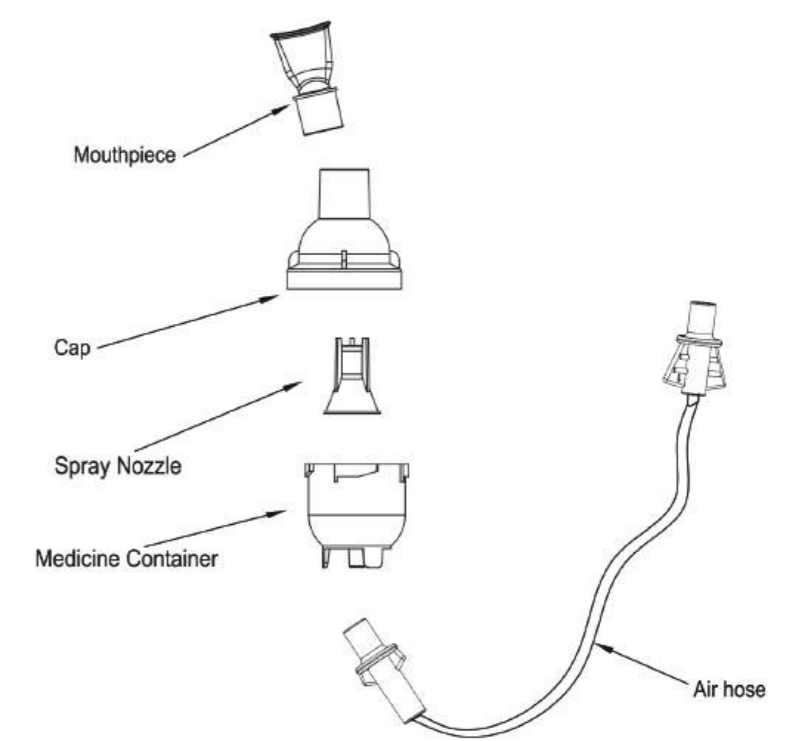

Figure 3
1. Open the cap (see Figure 3).